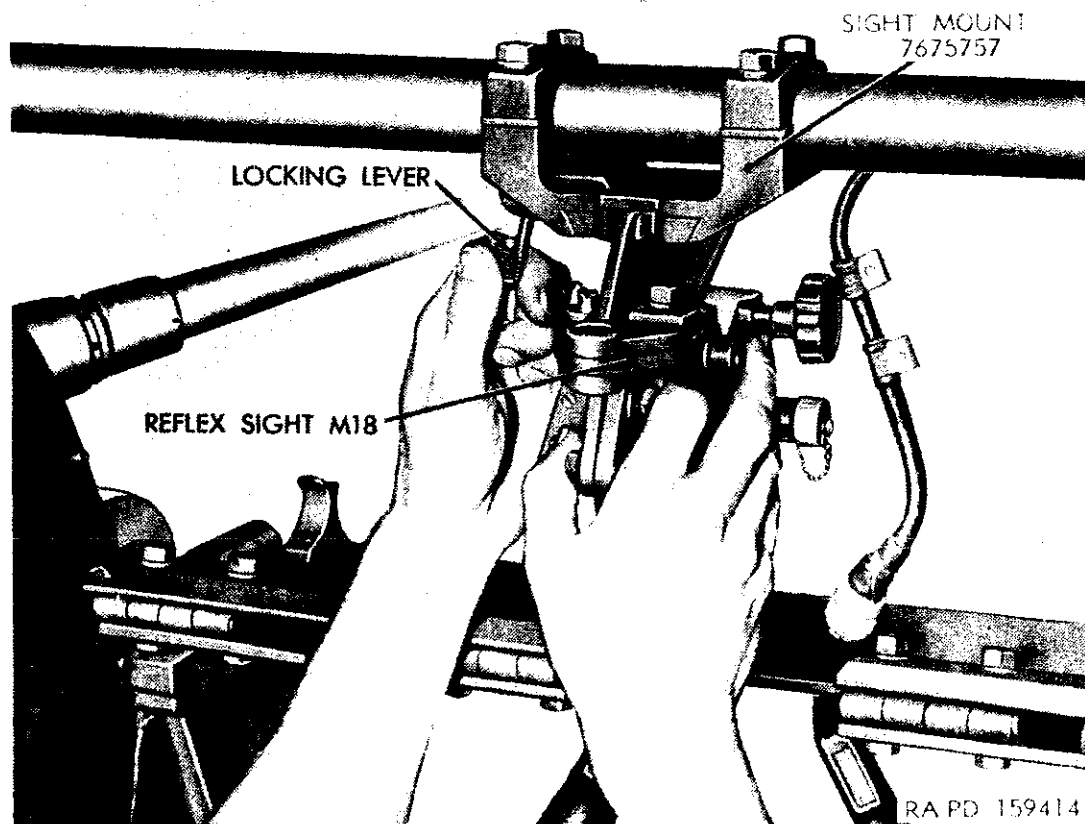

Figure 98. Installing reflex sight M18 in sight mount 7675757.
a. Remove the sight mount 7675757 (fig. 91) from its carrying-case. The sight mount is present in position on the sight brace. To install the reflex sight M18 (fig. 98) to the sight mount, pull the locking lever to its unlocked position and slide the reflex sight in the dovetail slot of the sight mount. Push the locking lever forward to its locked position, securing the reflex sight in place.
- c.* Remove the reflex sight M18 from the sight mount 7675757 by pulling the locking lever (fig. 98) forward to its unlocked position and sliding the reflex sight from the dovetail slot of the sight mount.